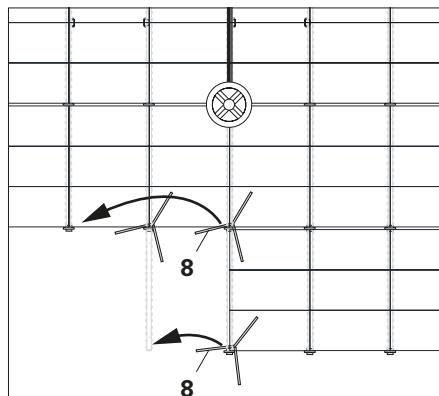

Fig. C2.03
Remove and re-position the Universal Tripods Ø57-120 mm (8) only when the bay is completely covered with panels and site personnel wearing safety equipment are no longer in the area of risk. (Fig. C2.03)